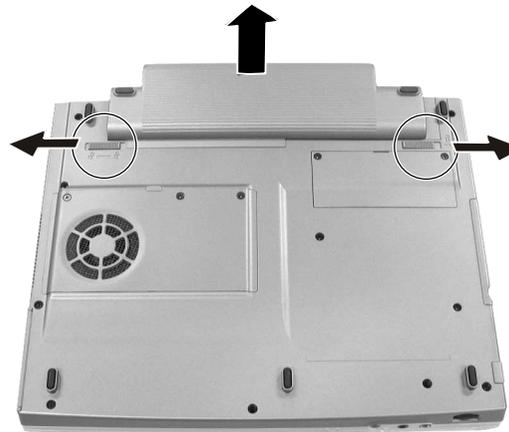

Figure 2-1 Remove the battery Pack
2. Slide the right battery lock level outward to the “unlock” () position. (See Figure 2-1)
3. Slide the left battery release level outward to the “unlock” () position and hold it in the unlock position, and then you can remove the battery pack out of its compartment. (See Figure 2-1)